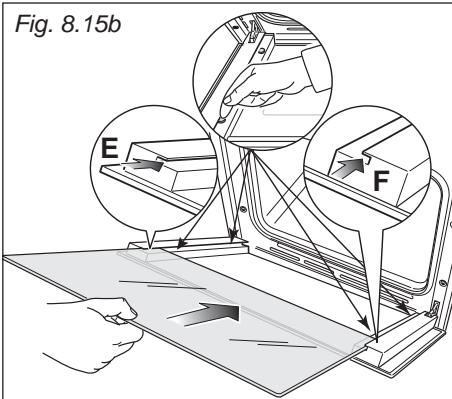
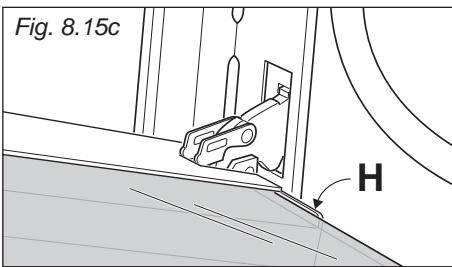

Fig. 8.15b
Fig. 8.15c
- IMPORTANT:** It is advisable, while refitting the glass, to keep pressed in position the four rubber pads "D", by a finger, to avoid breakage or slippage of the rubber pads themselves (fig. 8.15b).
- Insert the pane in the left "E" and right "F" slide guides (fig. 8.15b), and gently slide it to the retainers "H" (fig. 8.15c).